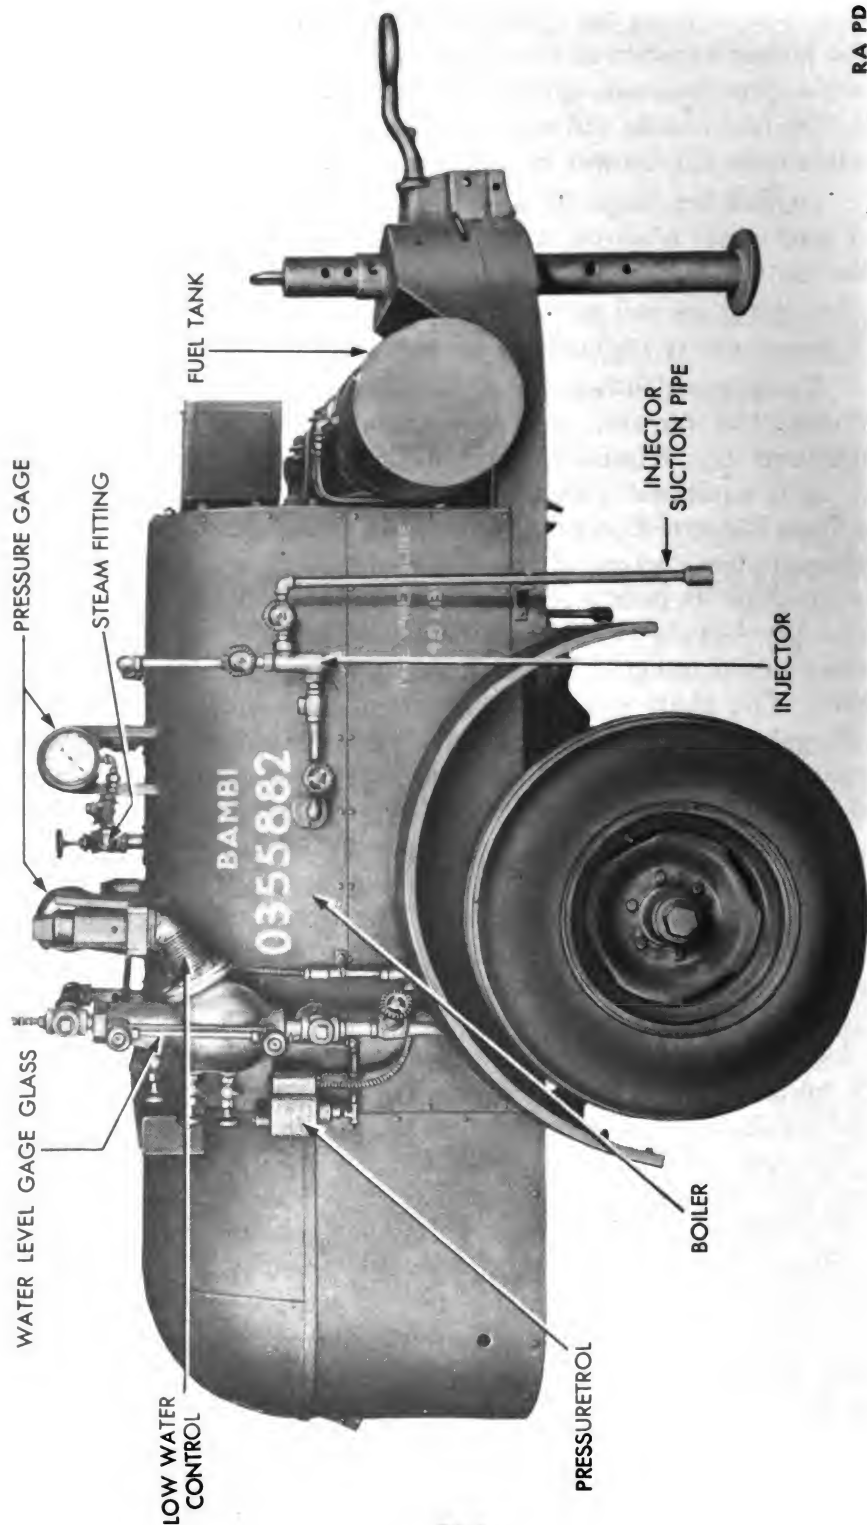
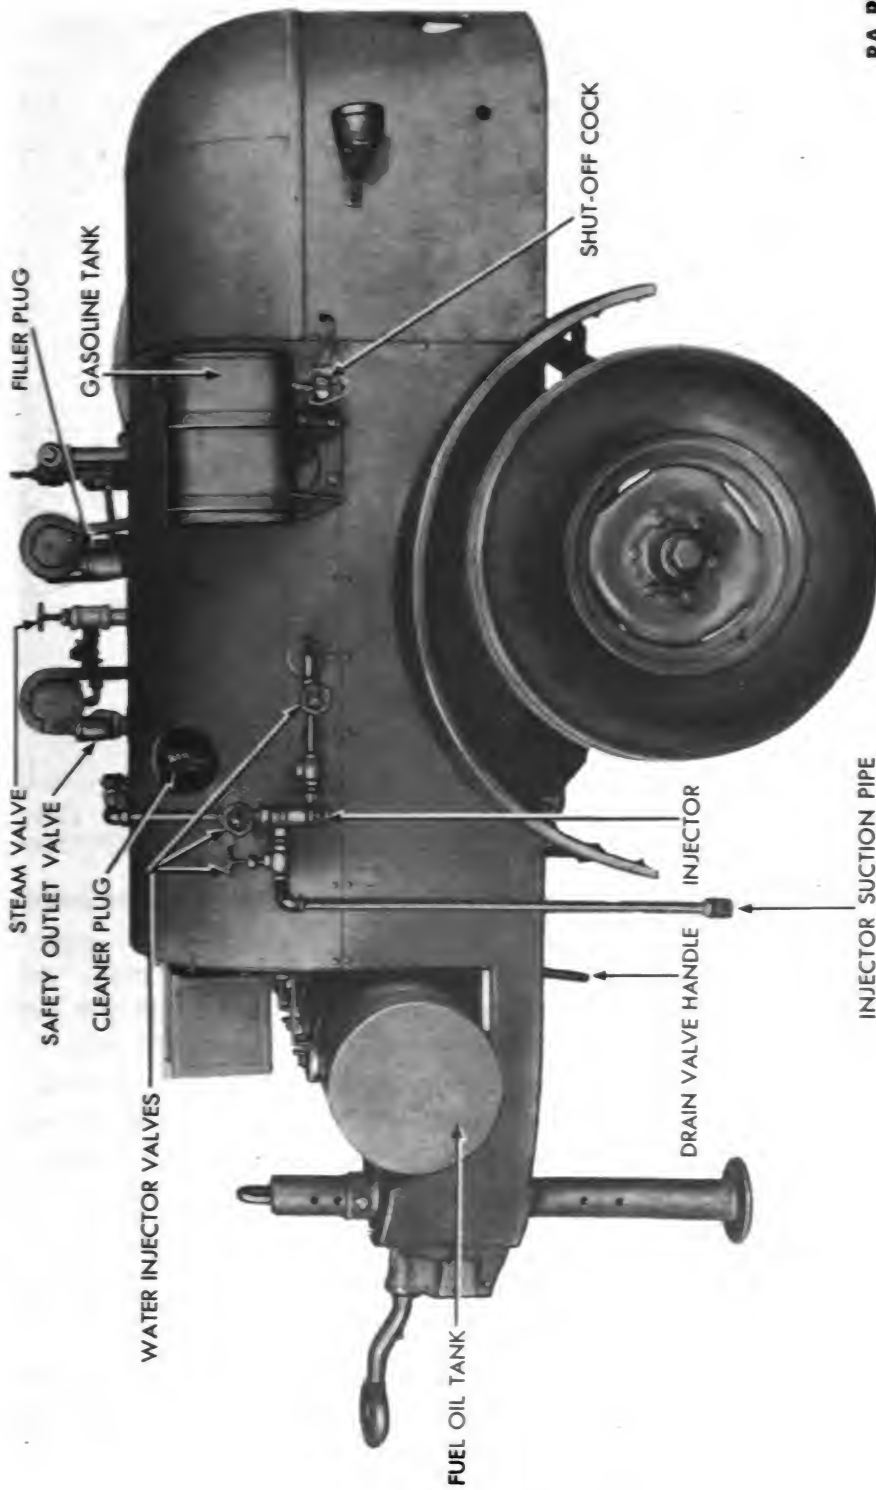

Figure 96 — Right Side of Steam Generating Plant
Figure 97 — Left Side of Steam Generating Plant
(1) GENERAL (figs. 96 and 97). A portable steam generating plant, type OB-1 is a part of ordnance bomb disposal company equipment. It is used to generate live steam with which to sterilize bombs. Its operation is described in the following text. This plant consists of a boiler, oil burner complete with air blower, fuel pump, dual water injectors, automatic ignition, fuel tank, tool compartment, piping, gages, engine, and control instruments. This equipment is mounted on a rubber-tired, low-center-of-gravity, two-wheeled trailer. The trailer is equipped with semielliptical springs and an adjustable steel, stiff-leg support for stationary operation. A description of the plant follows:
(4) **INJECTORS** (figs. 96 and 97). Two $\frac{1}{2}$ -inch, manually-controlled, feed water ejectors, with a complete set of control valves, are installed on the unit, one on either side. Injectors require pressure steam for operation and suction must be connected to a source of supply. They are easily replaced as an assembly.
(7) **FUEL TANK** (figs. 96 and 97). A 25-gallon fuel oil tank is installed in front of the boiler on channel members of the trailer frame. It holds enough oil for about 8 hours operation.
(8) **PRESSURETROL** (fig. 96). Burner operation is controlled by a steam pressuretrol mounted near the water column. This is adjustable to permit operation of the boiler at any desired pressure. There is a switch on the pressuretrol which closes when the steam
(9) **LOW WATER CONTROL** (fig. 96). A low water control is mounted on the right side of the boiler. It consists of a housing containing a float. The float is connected by levers to a switch which is in the generator-to-solenoid valve circuit. When the water level in the boiler gets low, the float opens the low water control switch. This closes the solenoid valve and makes it impossible for the burner to get oil until water is injected into the boiler.
(12) **SAFETY VALVE** (fig. 97). A 1-inch safety valve is installed on top of the boiler. It consists of a valve which is normally held closed by a spring. Excessive steam pressure opens the valve. If the safety valve operates, shut down the plant, then locate and repair the defective part of the pressure control system. It is adjusted to open at 100 pounds pressure. The adjustment is sealed and should not be tampered with.
(16) **DRAIN VALVE** (fig. 97). A high-pressure drain cock is located under the boiler. It has 1½-inch female fittings. A quarter turn of the handle opens it completely to drain the boiler.
(1) Level up boiler.
(2) Fill fuel oil tank on front of boiler (fig. 97). Use OIL, Diesel,
(3) Fill gasoline tank on left side of boiler (fig. 97).
(5) Vent and fill boiler through filler (fig. 97) on top of boiler until gage (fig. 96) on right side of boiler shows water slightly above "WATER LINE" mark.
(1) Open fuel tank shut-off cock (fig. 97).
(1) Connect hose of required length to steam fitting on top of boiler between pressure gages (fig. 96).
(2) Place water container filled with water in front of right-hand wheel. Drop water injector suction pipe into water (fig. 96). Keep water level above end of suction pipe at all times. *NOTE: Another suction pipe is located on left-hand side of unit and can be used in place of, or in addition to, the right-hand suction pipe (fig. 97).*
(1) Pressuretrol (fig. 96) is normally set at 90 pounds per square inch. However, steam may be used before this pressure is reached.
(2) Open steam valve on top of boiler to permit pressure needed to flow through hose (fig. 97).
(3) Watch water level as indicated by water level gage glass on right-hand side of boiler (fig. 96). Add water to boiler when level gets down to "WATER LINE," as follows: Open completely right-hand and left-hand (facing boiler) water injector valves (fig. 97). Open center valve (fig. 97) just enough to stop steam exhaust from injector. Observe water level gage. Close all three valves (center valve first) when water is about 2 inches above "WATER LINE" on gage.
(3) During cold weather, or if unit is to be idle for a considerable time, drain boiler and pipes. To drain boiler, open boiler drain valve underneath fuel oil tank (fig. 97). Be careful of live steam. To drain low water control, open valve under body of control (fig. 96). To drain pipes, remove plugs or open draincocks at low points.